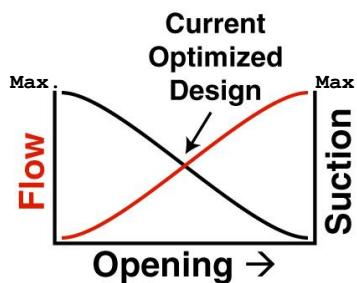

Figure 3. Trade-off performance design chart
- Strategy 1 would be to eliminate the problem cause, i.e. the vacuum cleaner’s inherent (Without power brush) design contradiction. (See Figure 3, the ‘optimized’, vacuum motor fan assembly trade-off)
Step 2: Contradiction: How to provide both maximum suction and flow. (See Figure 3, the 'Optimized', trade-off performance design chart below)